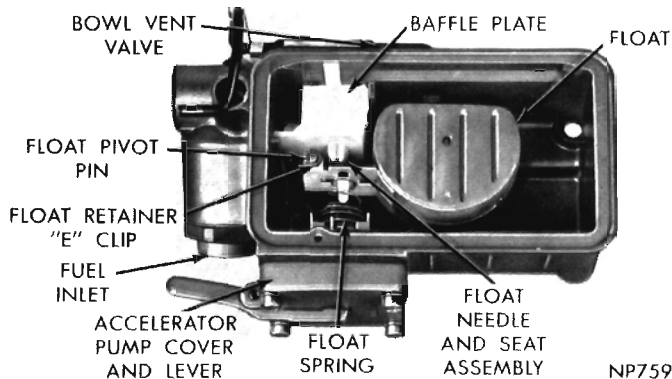

Fig. 6—Primary Fuel Bowl Assembly
(1) Remove primary bowl vent valve assembly (Fig. 6).